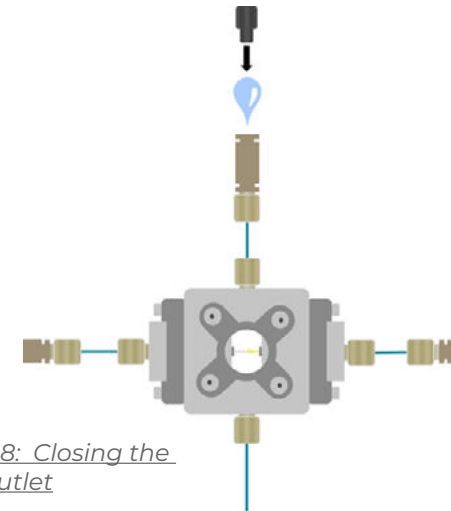

Figure 28: Closing the purge outlet
- 4 Close the purge of the RayDrop (Fig 28).